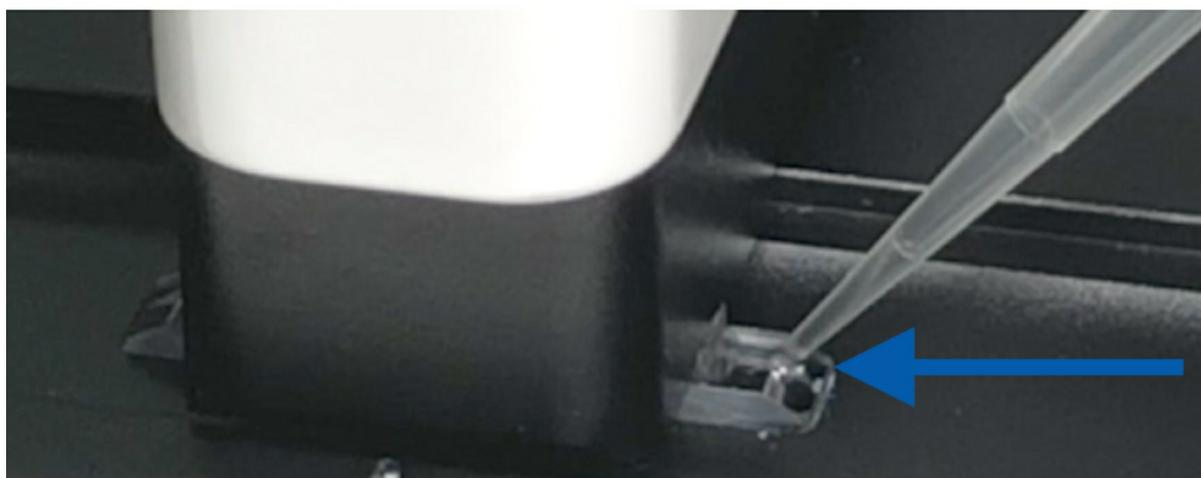

Figure 5: Pipette position for cleaning. Load 70% ethanol into the alignment groove.
3. Position the pipette in the alignment groove so that ethanol will flush out any debris in the groove (Figure 5).